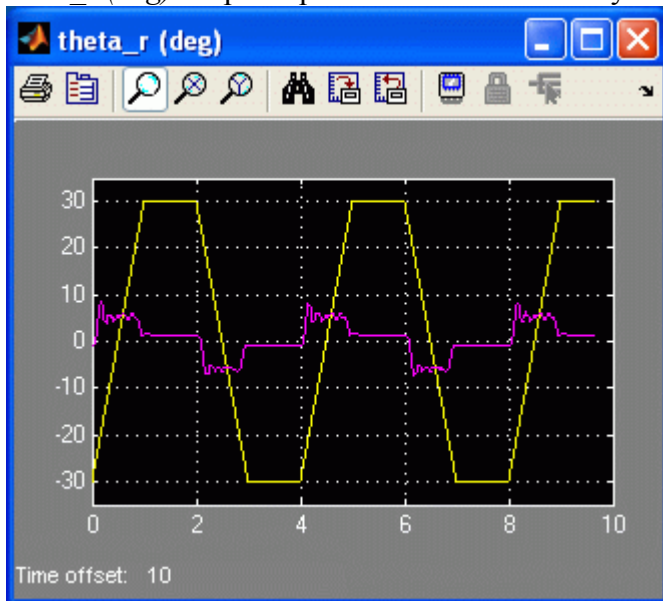

Figure 22: Typical response when tracking light going +/- 30 deg.
9. Set the *Light Pos (deg)* to 30 deg, the *Light Speed (deg/s)* to 60, and the *Light Brightness (V)* to 3. The light module should not be rotating +/- 30 deg and the camera should be tracking it. The *theta\_r (deg)* scope response should be similarly as shown in Figure 22.